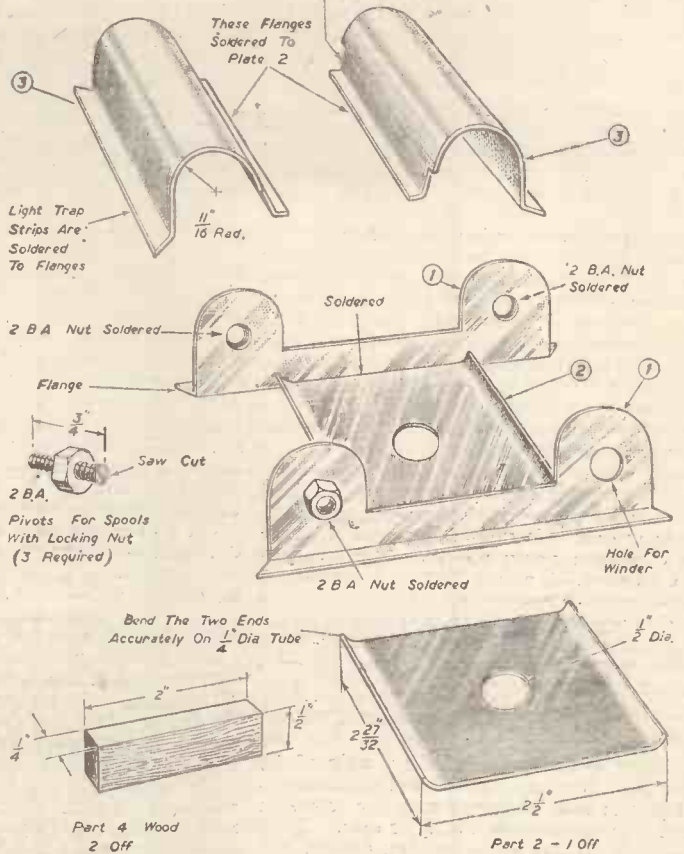

Fig. 3.—Showing how the various parts are bent to shape and assembled.
Each side in turn was then placed against plate (2) and soldered on opposite sides, the solder being run along the inside edges, as shown in Fig. 3. As dead squareness of the holder was a vital point, an accurately drawn rectangle was outlined on the flat surface and used as a guide during soldering operations. It was found preferable to spot solder at several points first and, finally, fully solder when the correct alignment of parts was obtained.